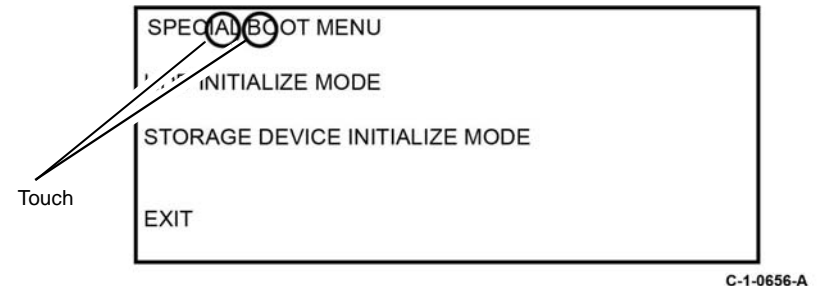

Figure 1 Accessing special boot mode
2. Simultaneously press then hold down the **Home** and **Power** buttons until the device powers on and SPECIAL BOOT MENU appears, Figure 1.
3. Simultaneously touch the letters **A** in **SPECIAL**, **B** in **BOOT** and the **Home** button. Do not hold any of the three locations, just touch/press then release simultaneously, Figure 1.